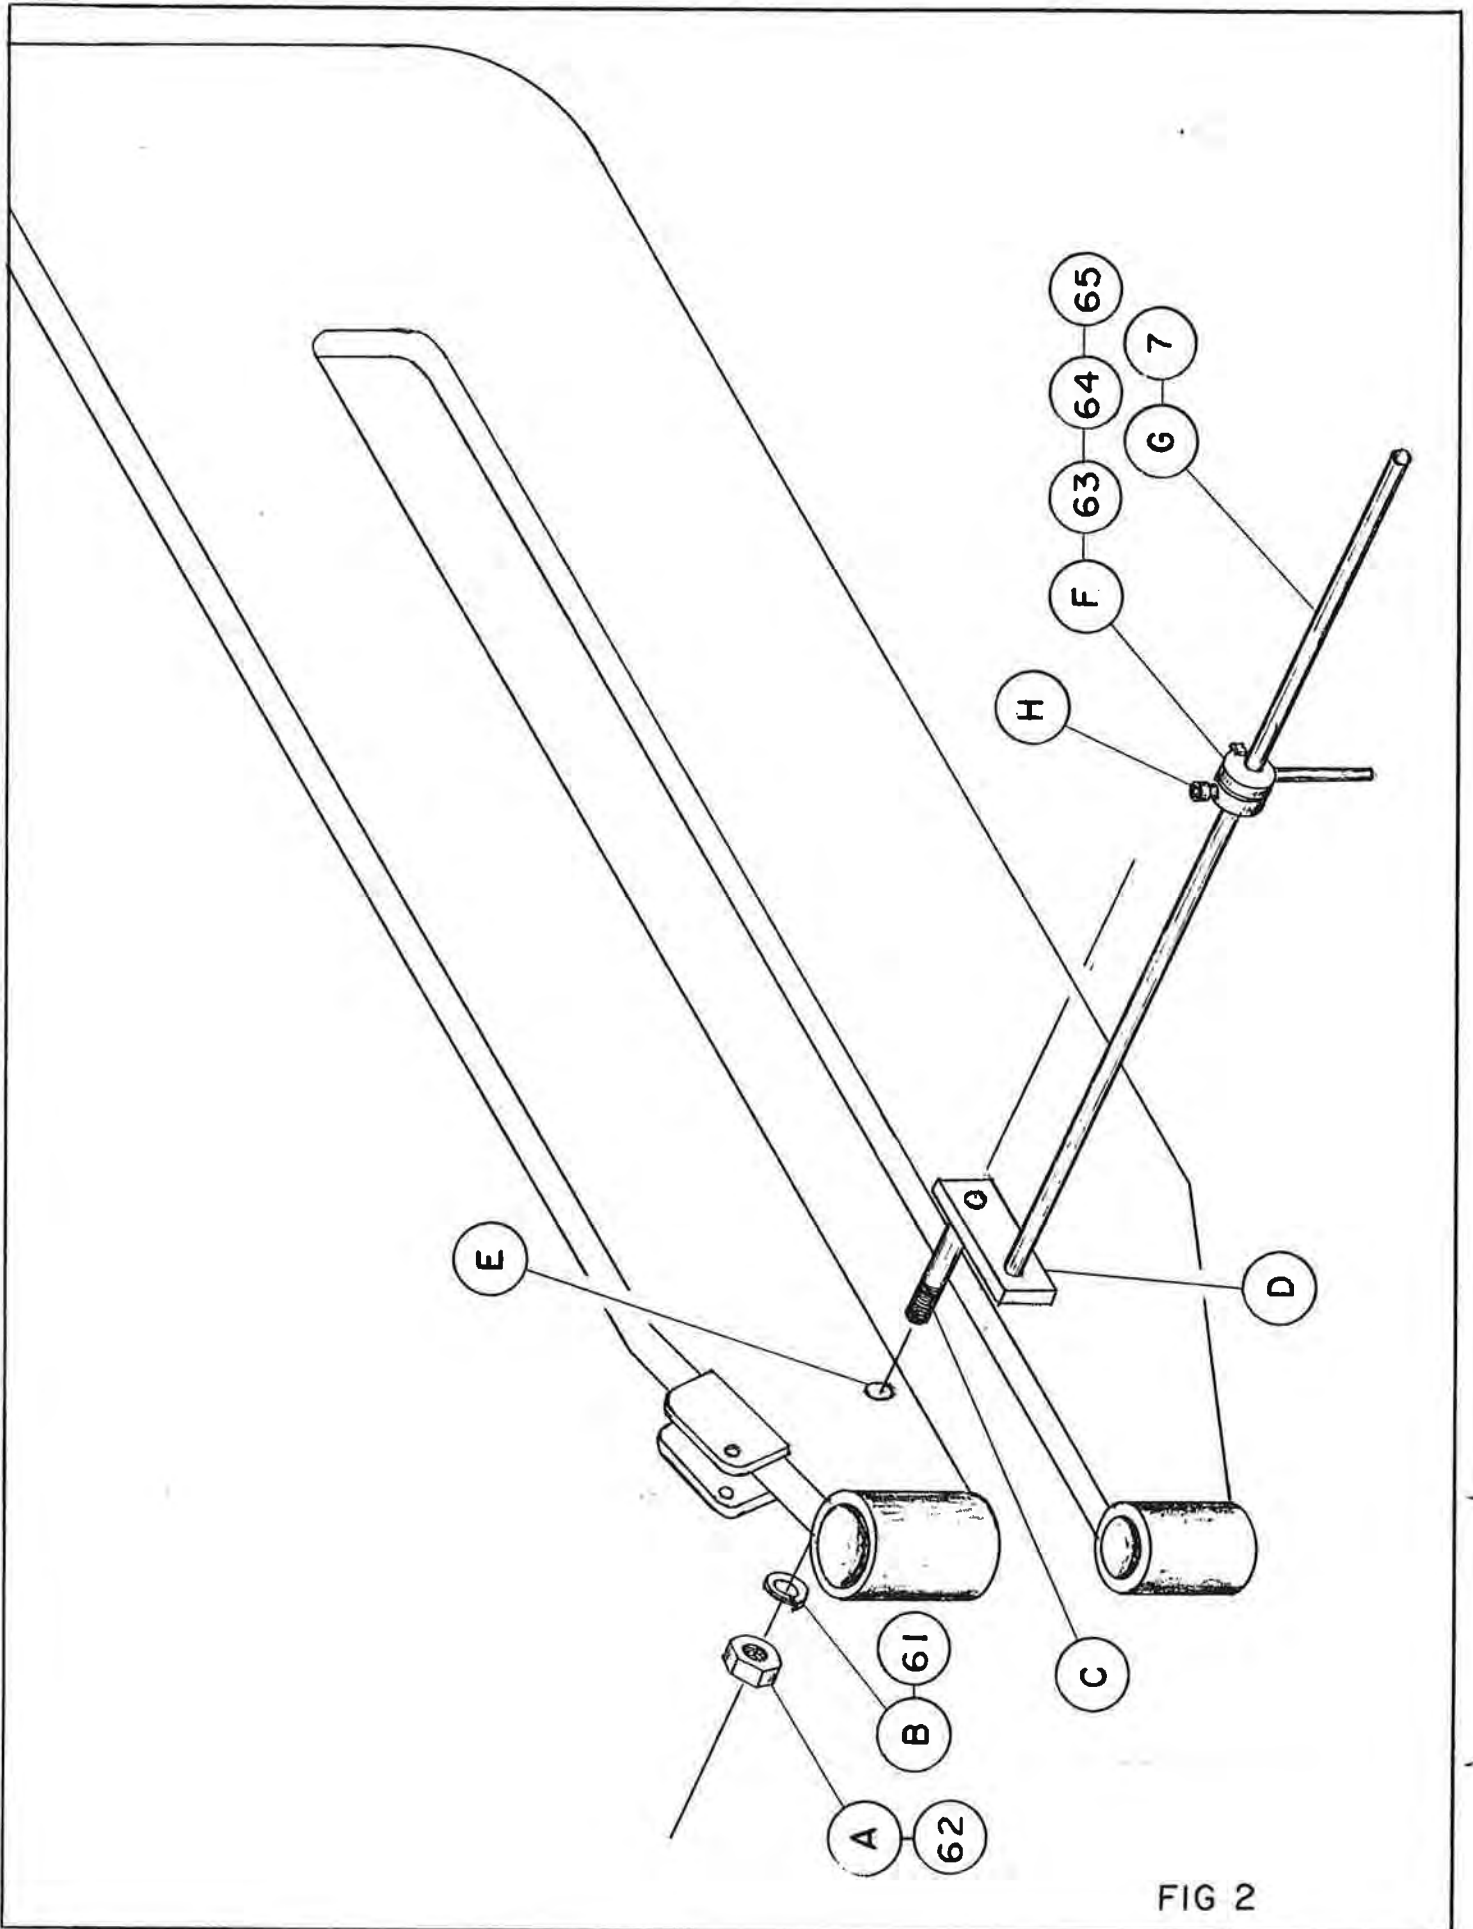

FIG 2
6. Attach the back gauge to the back of the machine using hole #E Fig. 2 Page 5 for back gauge installation see Section 2 Page 4.
To install the back gauge, after you remove it from the crate, remove the nut #A Fig. 2 Page 5 and lockwasher #B Fig. 2 Page 5 from the short stud bolt #C Fig. 2 Page 5 on the plate #D Fig. 2 Page 5, next insert the stud bolt #C into the hole #E Fig. 2 Page 5 from the back side of the tailstock, then put the nut #A and the lockwasher #B back on the stud #C and tighten the nut with the plate #D turned toward the headstock end of the machine, as shown in Fig. 2 Page 5.
The swing arm assemble #F Fig. 2 Page 5 must be on the long rod #G Fig. 2 Page 5 so that it swings toward the motor on the machine. If it does not swing toward the motor, loosen the socket head cap screw #H Fig. 2 Page 5, remove it from the long rod, turn it around and replace it on the long rod.